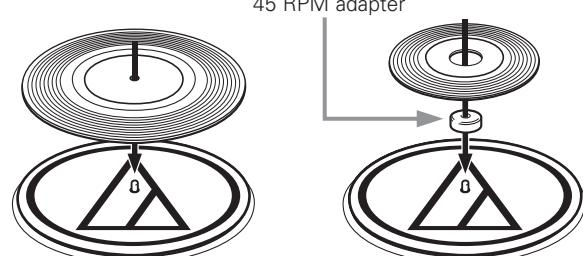

Figure 5
2. Put a record on the turntable. If needed, use the 45 RPM adapter (Fig. 5).